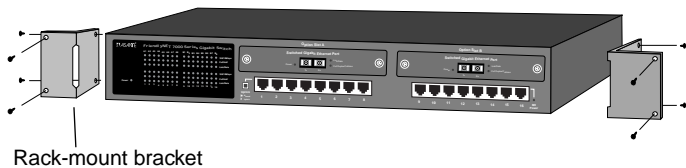

Figure 2-10 Attaching mounting brackets to the FS7000
- 1 Attach the two mounting brackets (supplied) on each side of the chassis. See Figure 2-10.